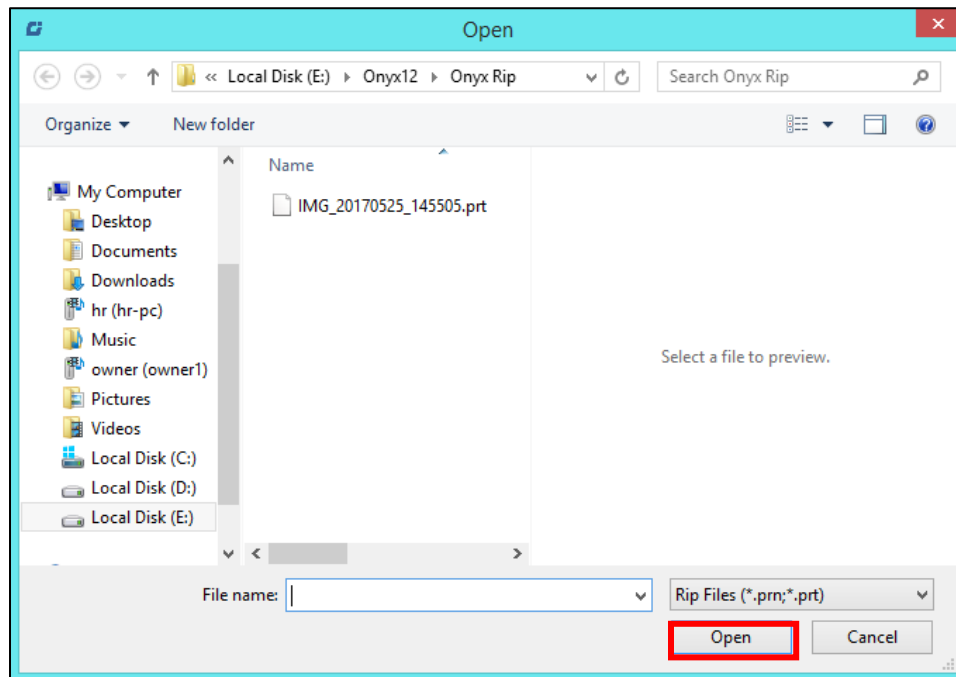

Fig 36: Adding the Job
Step 2: Navigate to the location where the image file with extension “.prt” and “.prn” is stored (Refer to Fig 36).